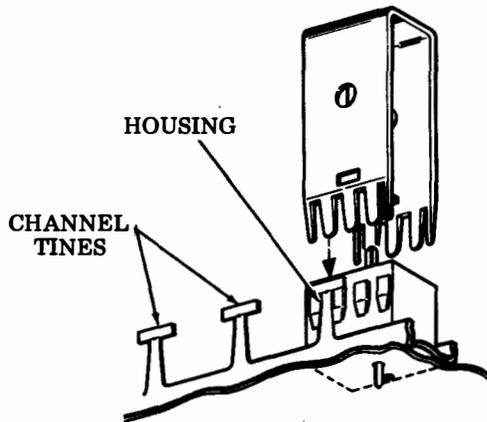

Fig. 6—Spacebar Housing Removal
- (b) Place 346257 tool over either spacebar housing and press downward. When the tool bottoms and embossed projections snap into notches on housing, squeeze and pull back on the tool to lift housing up. (Fig. 6).